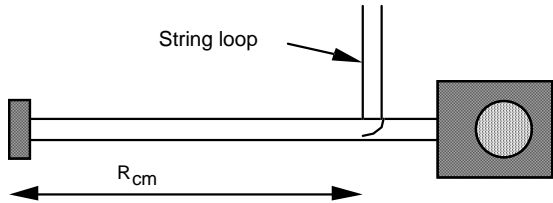

Figure 8.1
- ① Latch the pendulum at 90° so it is out of the way, then load the projectile launcher. Allow the pendulum to hang freely, and move the angle indicator to zero degrees.
- ② Fire the launcher and record the angle reached. If you want to do the experiment with a lower or higher angle, add or remove mass to the pendulum. Repeat these test measurements until you are satisfied with the mass of the pendulum.
- ③ Once you have chosen the mass to use for your experiment, remove the pendulum from the base by unscrewing and removing the pivot axle. Using the mass balance, find the mass of the pendulum and ball together. Record this value as M in table 8.1.
- ④ Measure the mass of the ball, and record this as m .
- ⑤ Tie a loop in the string, and hang the pendulum from the loop. (See figure 8.1) With the ball latched in position in the ball catcher, adjust the position of the pendulum in this loop until it balances. Measure the distance from the pivot point to this balance point, and record it as R_{cm} . You may find it easier to do this by balancing the pendulum on the edge of a ruler or similar object.